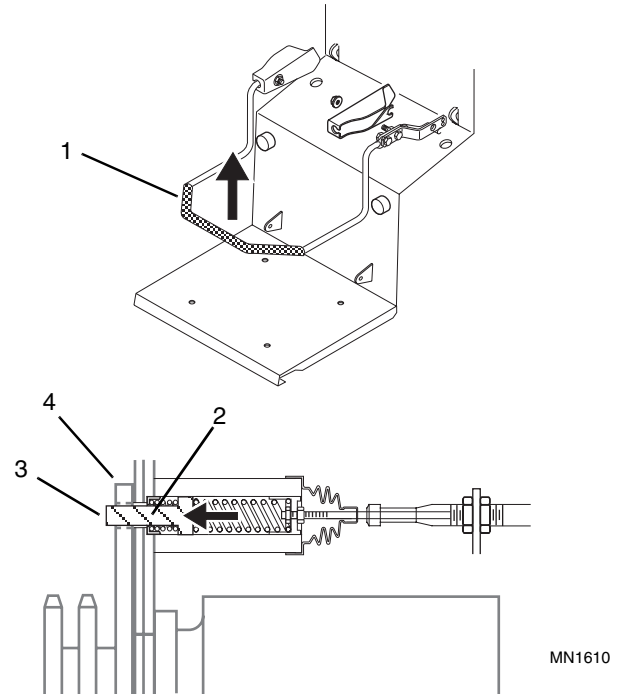

Figure 9-38 Park Lock - Engaged
20. Raise seat bar (Fig. 9-38, 1).
21. Inspect to see that both pins (Fig. 9-38, 2) have fully extended through the hole (3) in its respective drive sprocket (4).